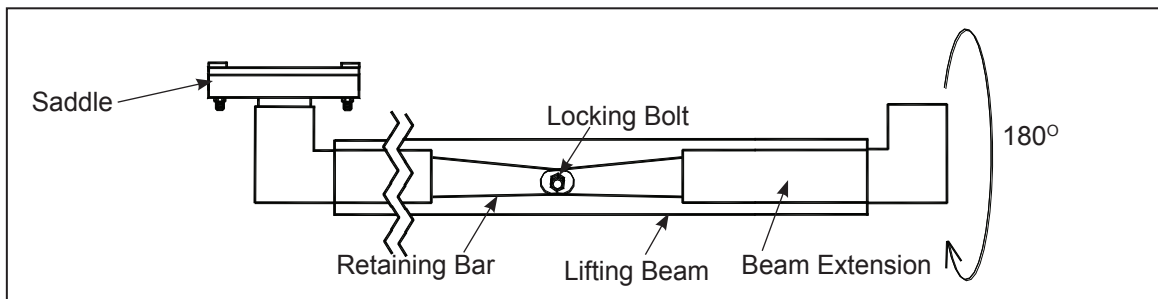

Figure 2.
4. For low pickup height, unscrew the locking bolt and nut, then rotate the beam extensions 180 degrees. Refer to Figure 2.